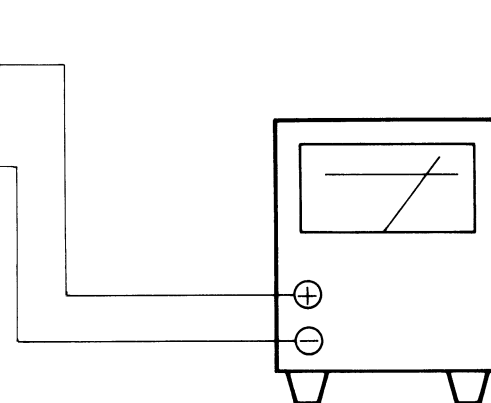

Fig. 23B
2. Connect a DC VTVM to test points "L" and "L-E" ("R" and "R-E"). Refer to Fig. 23B.